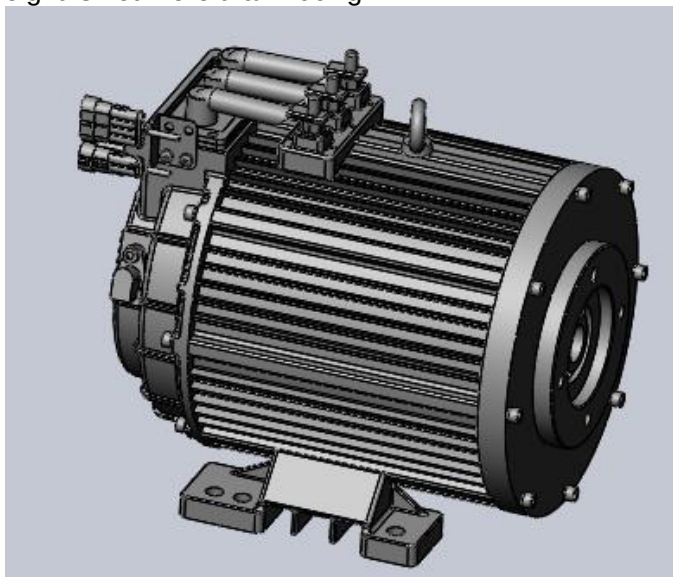

Figure 2-31
- (5) Figure 2-31 shows the lifting of the walking motor.